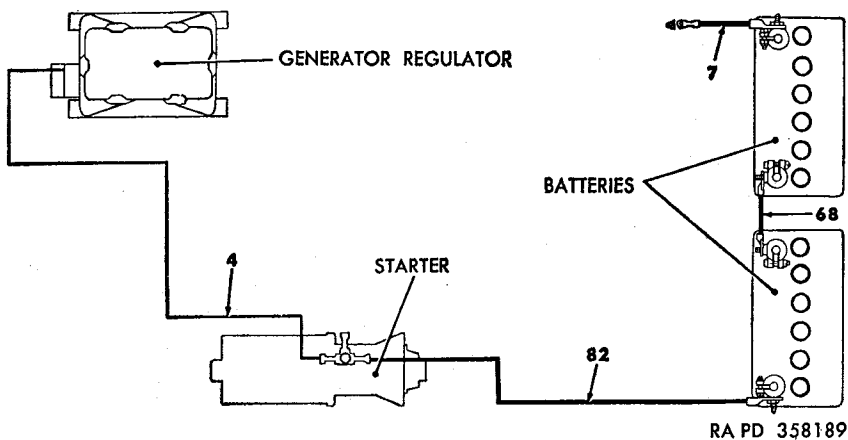
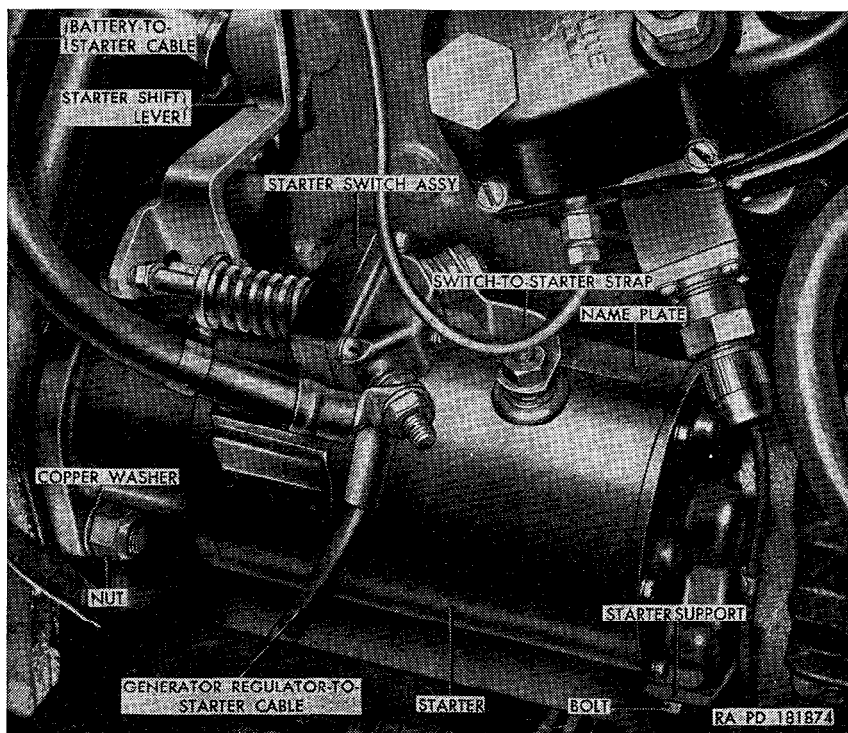

Figure 85. Starting system components and cables identification (M38A1).
Figure 87. Starter assembly—installed.
a. Description. The starting system (figs. 85 and 86) consists of the starter, starter switch and starter pedal, connecting electrical cables, and batteries. The auxiliary power cable receptacle with connecting cables, a part of the winterization kit, is considered a part of the starting system when a booster battery or an outside power source is used to assist in starting the engine. Refer to paragraph 162 for information relative to the batteries. A four pole, four brush, water-proof starter assembly (fig. 87) is mounted on the right side of the engine. The starter switch, an integral part of the starter, is mounted on top of the starter. A spring-loaded-type starter pedal (V, fig. 11), which extends from the driver's compartment into the engine compartment, functions to move the starter shift lever. Movement of the starter shift lever (fig. 87) shifts the starter drive pinion into engagement with the engine flywheel and also closes the starter switch contacts. The starter is equipped with an overrunning clutch-type drive which automatically disengages the starter drive pinion from the flywheel when the engine is started.
(fig. 87)